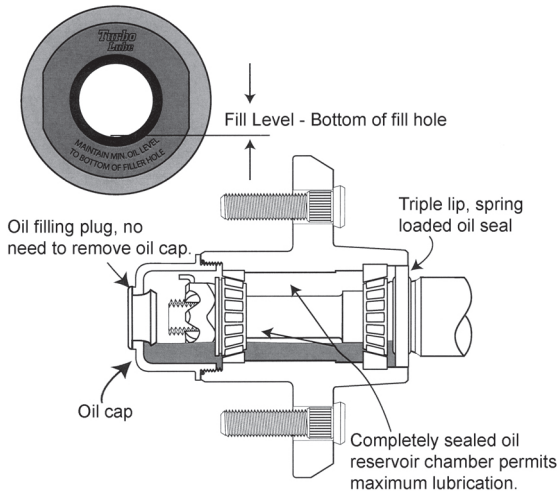

Figure S19: Turbo Lube Oil Fill Diagram
1. Remove oil filling plug from Turbo Lube cap. Add oil into the Turbo Lube hub. See Figure S19.